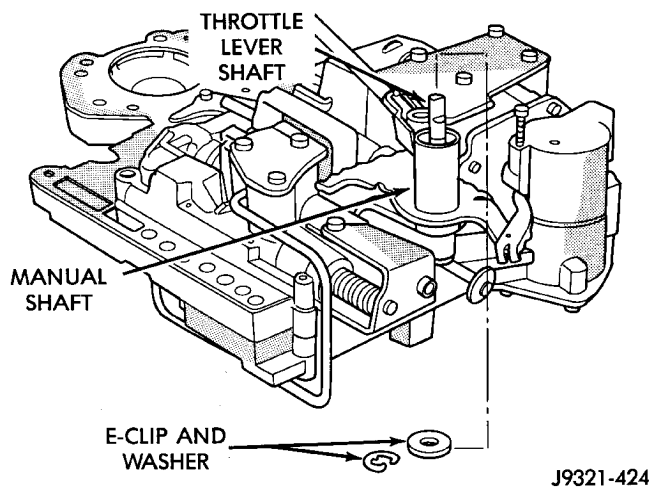

Fig. 49 Throttle Lever E-Clip And Washer
(16) Remove E-clip and washer that retains throttle lever shaft in manual lever (Fig. 49).